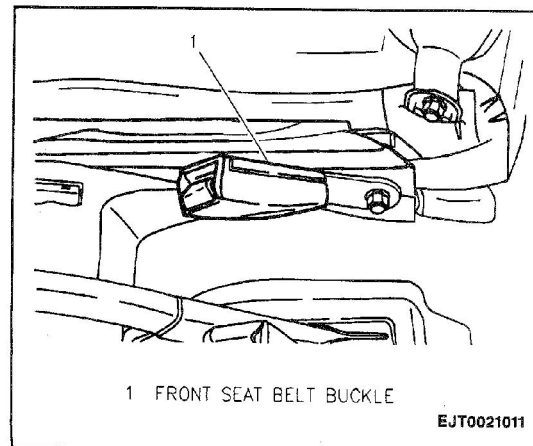

Figure 6—Front Seat Belt Buckle Anchor Bolt
2. Front seat belt buckle to front seat frame; secure with one anchor bolt (Figure 6).